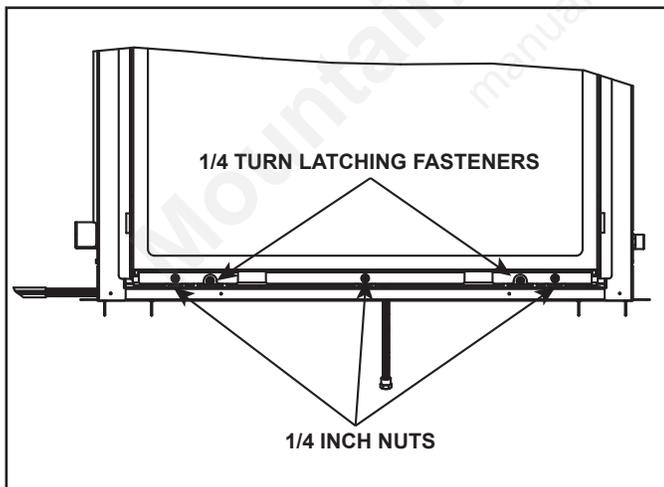

Figure 16.2 Door Latching Fasteners
1. Remove the three 1/4 inch nuts on the bottom of the glass frame. See Figure 16.2.